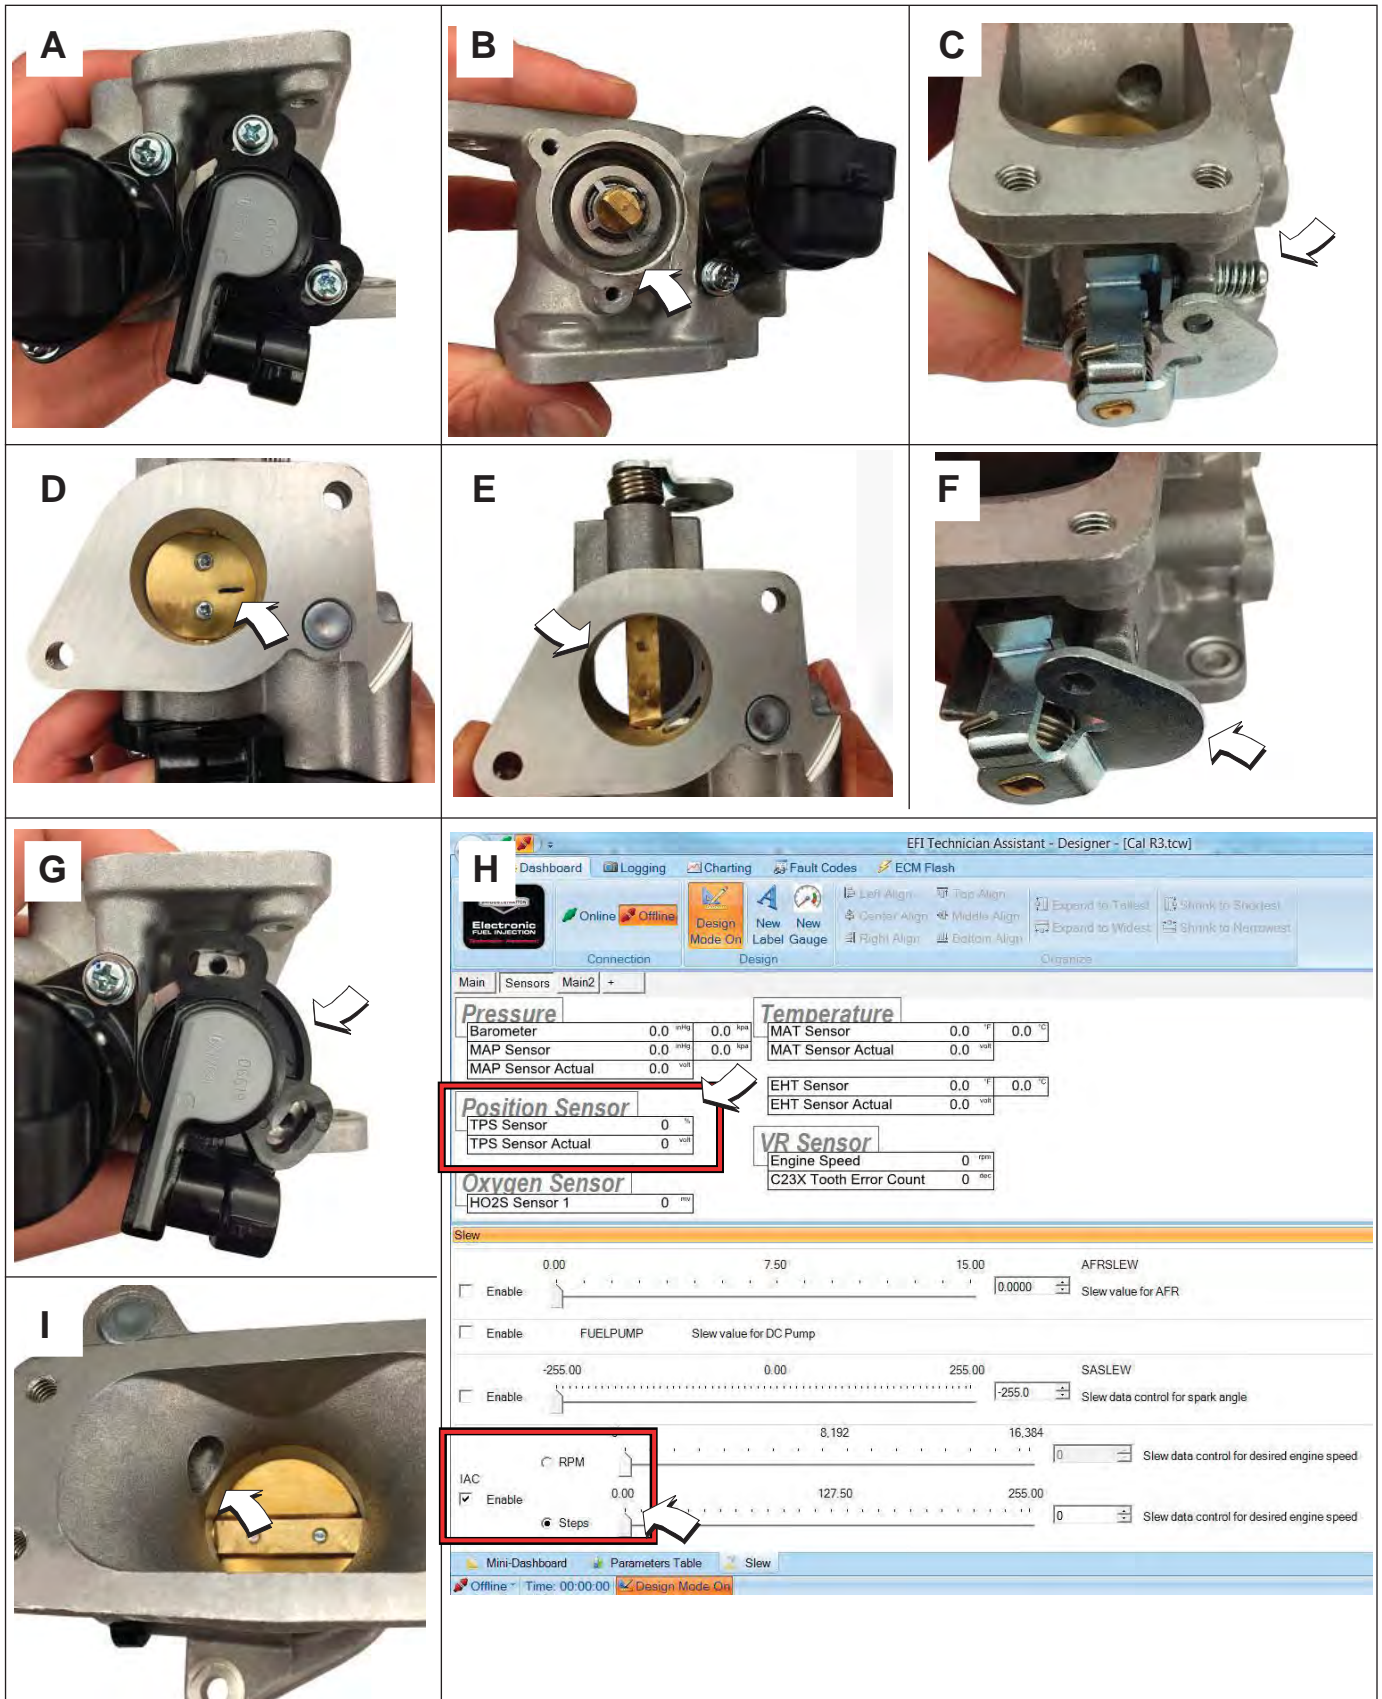

Figure 5-24 TPS Removal/Installation/Adjustment.
2. Remove two Phillips screws to release TPS from throttle body. See A and B of Figure 5-24.
3. Remove dead idle screw with spring from throttle body. See C of Figure 5-24.
4. Mark throttle plate position for ease of installation. See D of Figure 5-24.
5. Remove two screws to release throttle plate. See E of Figure 5-24.
6. Rotate throttle, so that lever contacts the dead idle screw boss. See F of Figure 5-24.
7. Install two Phillips screws to fasten **new** TPS to throttle body, but leave loose for later adjustment. See G of Figure 5-24.
12. Slew the IAC to 0 steps. See H of Figure 5-24.
15. With throttle resting against the dead idle screw, use the software to adjust the TPS Sensor Actual voltage to 0.73 +/- .02 volts. See H of Figure 5-24.
21. Use index finger or plug to block IAC air passage. See I of Figure 5-24.